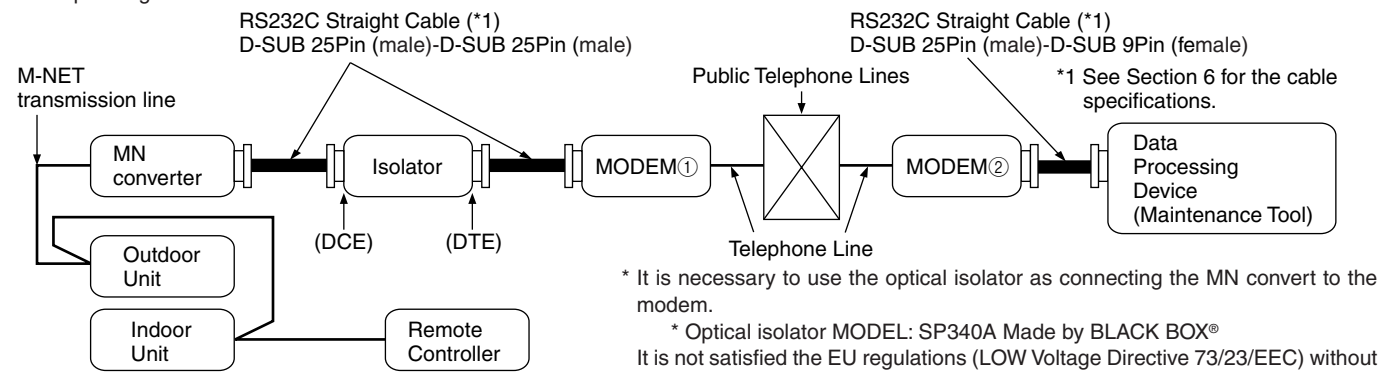

Figure 1. Basic layout
The basic layout for connecting this unit to a modem is shown in Fig.1 below.
Before connecting the units, the MN converter and MN converter side modem (modem ① in Fig. 1) must be initialized. Initialization is explained in Section 3.
The MN converter is not insulation specifications. When connecting with a modem, always use an isolator to isolate the MN converter from the modem. Also, because the isolator is directional, connect it in the direction shown in Fig. 1.
Before connecting the basic layout of Fig. 1, the MN converter and MN converter side modem (modem ① in Fig. 1) must be set as explained below.